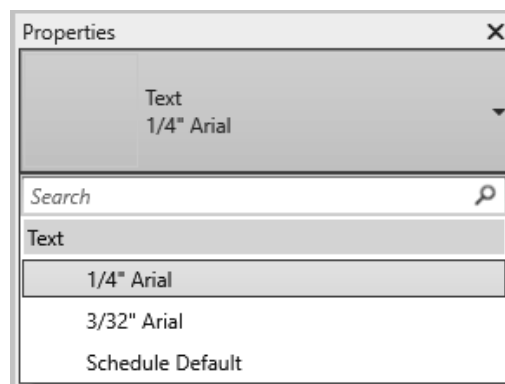

Figure 1–35
2. Expand the list in the Type Selector. Only a few text types are available, as shown in Figure 1–35.